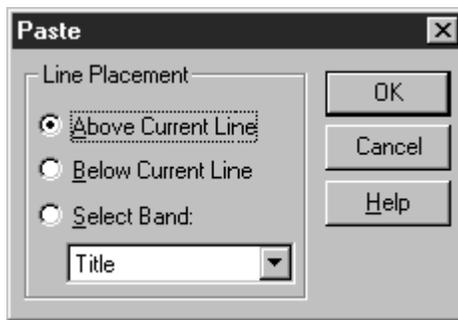

Figure 3.7 Paste Lines Dialog
3. The Paste dialog (see Figure 3.7) presents the following options: Above Current Line, Below Current Line, and Select Band. Selecting Above or Below pastes the line(s) either above or below the current line. The band type of the pasted lines will be the same as that of the current line.